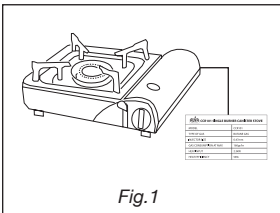

Fig.1
- DO NOT use any gas other than that which is specified on the label attached (Fig.1).